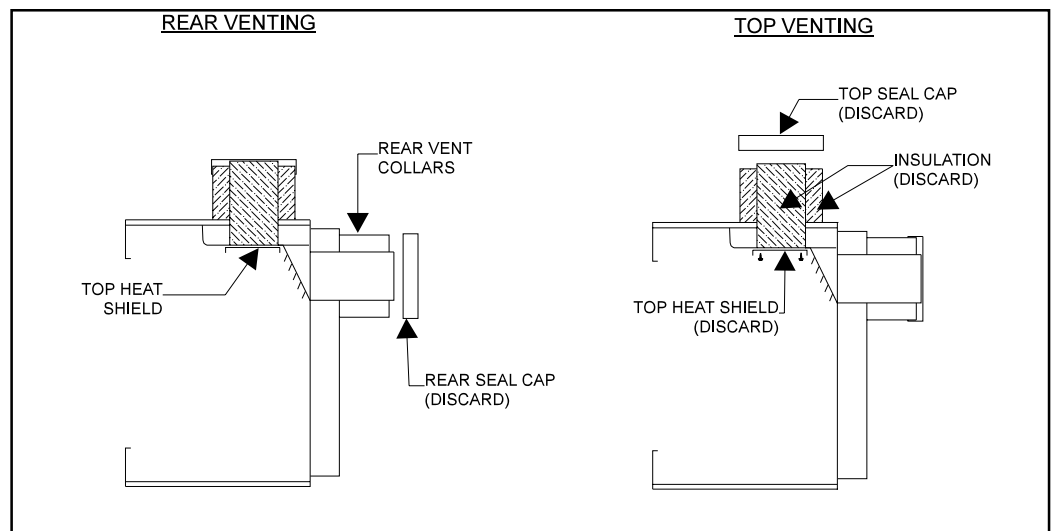

Figure 15
Remove the installed rear seal cap from the rear starting collars (see Figure 15). Follow the vent configuration tables accordingly.
**WARNING: THE TOP HEAT SHIELD (INSIDE THE FIREBOX) MUST REMAIN ATTACHED IF THE VENT SYSTEM IS ATTACHED TO THE STARTING COLLARS. SEE FIGURE 15.**
Remove the top vent collar seal cap and the insulation inside the top starting collars (see Figure 15). Next remove the glass door and packaged logs from inside the firebox.
Remove the top heat shield from the inside of the firebox and discard. (See Figure 15).
**! WARNING: THE REAR VENT COLLAR SEAL CAP MUST REMAIN ATTACHED TO THE REAR VENT COLLARS IF THE VENT SYSTEM IS ATTACHED TO THE TOP STARTING COLLARS. SEE FIGURE 15.**